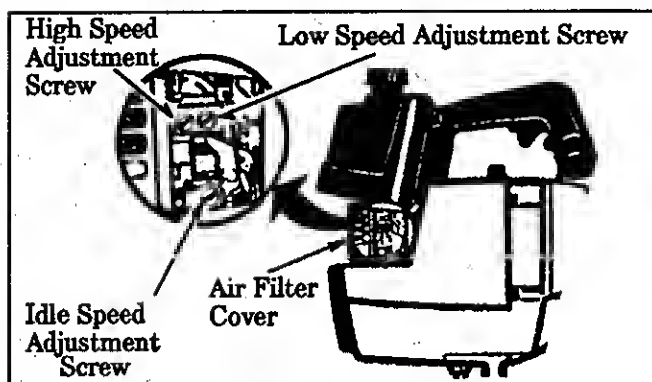

Figure 30
- a. Turn the Low speed Mixture Screw and the High speed Mixture Screw (Figure 30) clockwise until they stop. *Do not turn the screws until they are tight as damage to the needle seats can occur.*
2. Adjust Idle Speed Screw (Figure 30) until the engine continues to run without stalling and without the blade or trimmer head moving.
- b. **If the engine does not accelerate smoothly**, turn the Low speed mixture Screw (Figure 30) counterclockwise a small amount (no more than the width of the slot in the adjusting screw).
2. Turn the Low speed Mixture Screw (Figure 30) slowly clockwise until the speed starts to drop. Note this position.
3. Turn High Speed Mixture Screw (Figure 30) very slowly clockwise until engine speed is reduced.